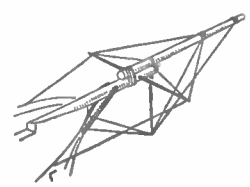

Fig. 6—Details of Bowsprit
The bowsprit construction is shown in Fig. 6. This is made in two lengths, the outer piece (A) being 2¼ ins. long and piece (B) 2½ ins., both being shaped up from ¼ in. round rod. Lap the two together for a length of ¼ in. or so and bind well with fine twine. The whisker spar and the spar underneath can be formed from wire, the